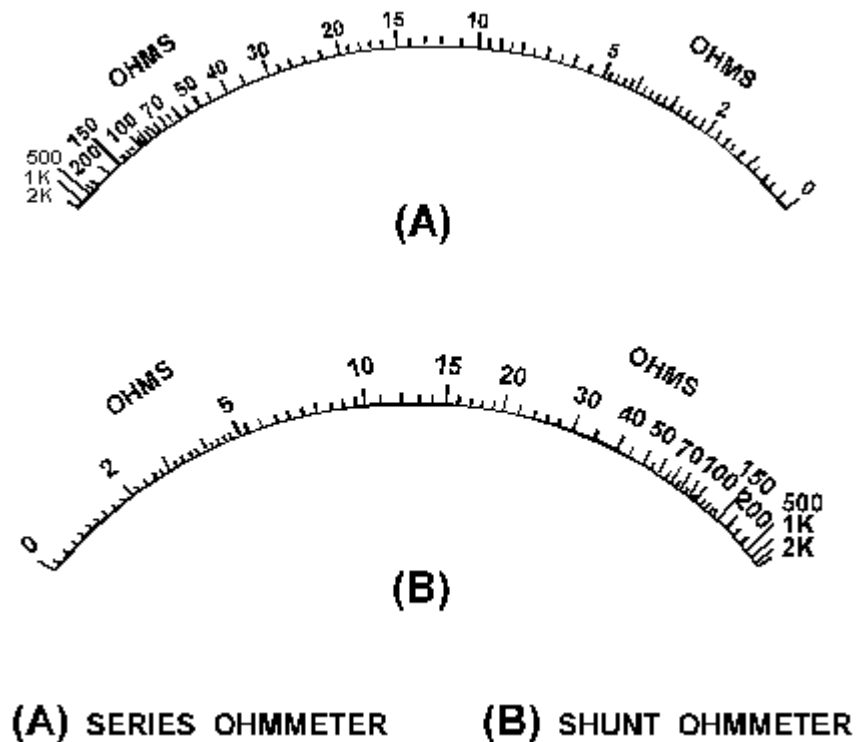
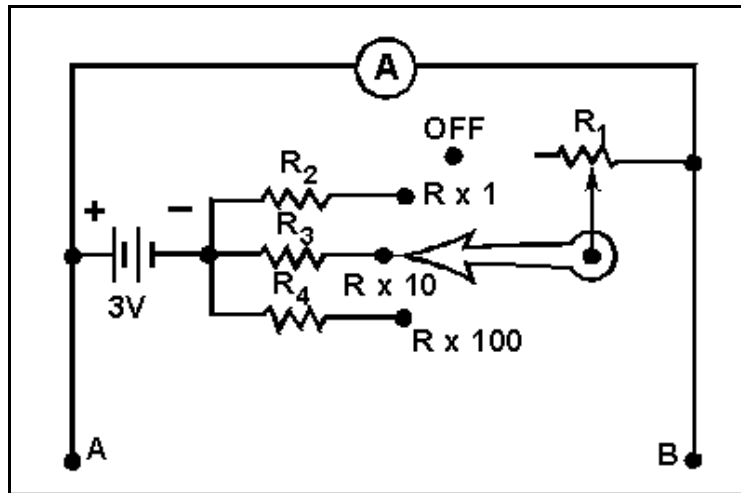

Figure 1-34.—Series and shunt ohmmeter scales.
Figure 1-35.—A shunt ohmmeter with internal range resistors.
The ohmmeter described to this point is known as a series ohmmeter, because the resistance to be measured is in series with the internal resistors and the meter movement of the ohmmeter. Another type of ohmmeter is the **SHUNT OHMMETER**. In the shunt ohmmeter, the resistance to be measured shunts (is in parallel with) the meter movement of the ohmmeter. The most obvious way to tell the difference between the series and shunt ohmmeters is by the scale of the meter. Figure 1-34 shows the scale of a series ohmmeter and the scale of a shunt ohmmeter.
Figure 1-34(A) is the scale of a series ohmmeter. Notice "0" is on the right and "∞" is on the left. Figure 1-34(B) is the scale of a shunt ohmmeter. In the shunt ohmmeter "∞" is on the right and "0" is on the left. A shunt ohmmeter circuit is shown in figure 1-35.
In figure 1-35, R_1 is a rheostat used to adjust the ∞ reading of the meter (full-scale deflection). R_2 , R_3 , and R_4 are used to provide the $R \times 1$, $R \times 10$, and $R \times 100$ ranges. Points A and B represent the meter leads. With no resistance connected between points A and B the meter has full-scale current and indicates